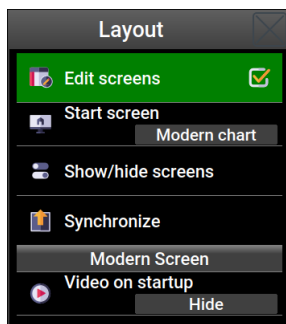

Figure 6.1: Option that must be enabled before screen editing.
2. Check the Edit screens options, see Figure 6.1.